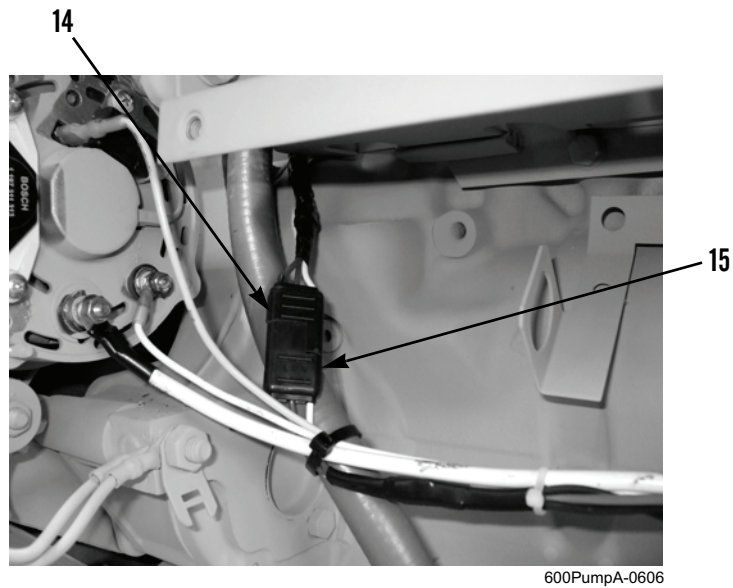

Figure 5. Cooling Fan V-Belt Shutdown Switch Connector.
11. Disconnect engine/control panel wiring harness connector (Figure 5, Item 15) from cooling fan V-belt shutdown switch connector (Figure 5, Item 14).